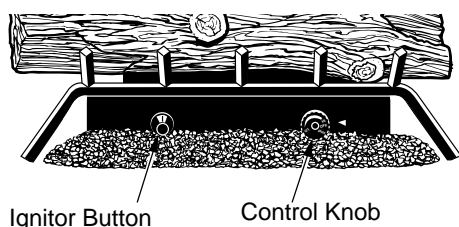

Figure 27 - Control Knob and Ignitor Button Location
5. Turn control knob counterclockwise  to the PILOT position. Press in control knob for five (5) seconds (see Figure 27).
**Note:** If pilot goes out, repeat steps 3 through 7. This heater has a safety interlock system. Wait one (1) minute for system to reset before lighting pilot again.